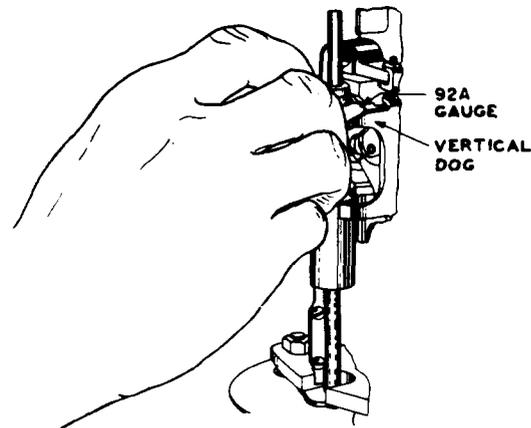

Fig. 22—Method of Checking the Depth of Engagement Between the Beveled Surface of the Vertical Tooth and the Vertical Dog
**Note:** This requirement shall be checked on the first, fifth, and ninth levels using the 92A gauge. To check this requirement, insert the gauge between the top of the vertical dog and the undersurface of the vertical tooth, as shown in Fig. 22.